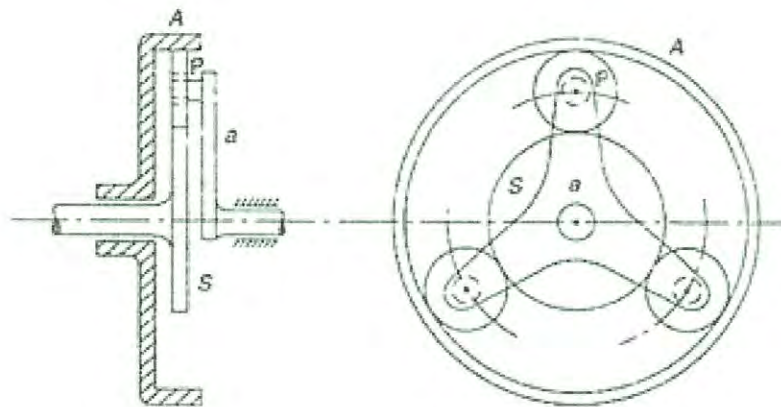

Figure Q2
- (b) In the planetary gear train shown in **Figure Q2**, the annulus A rotates at 300 rpm about the axis of fixed wheel S which has 80 teeth. The armed spider (arm) is driven at 180 rpm. The annulus is connected to input shaft whereas the arm is connected to the output shaft. If the efficiency of gear system is 98% and input torque is 100 Nm, identify the following information regarding these problems
- Q3** (a) The choice of type of belt to be used is important so that the required power can be delivered efficiently. List four (4) factors to be considered in selecting a suitable belt type to be used for a particular application. (2 marks)